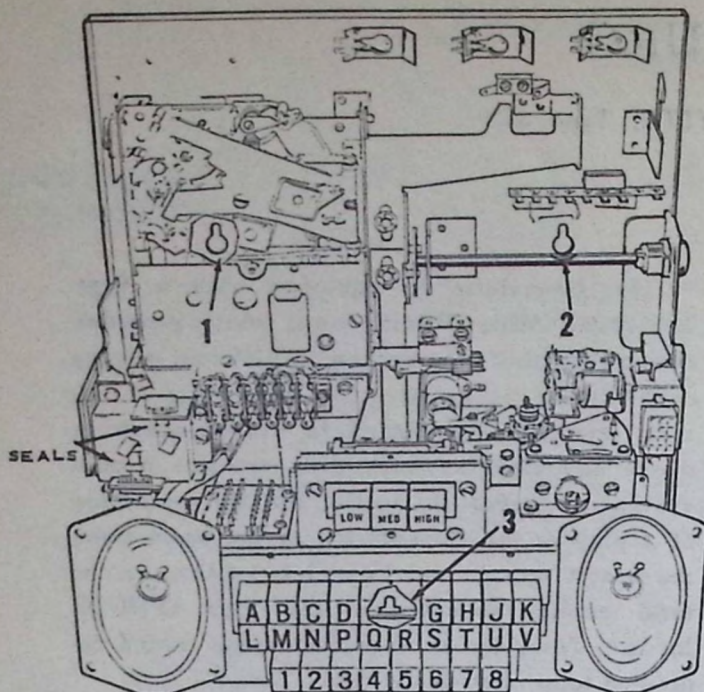

Figure 2. Interior View - Mounting and Seals.
The black and white wires of the interconnecting cable carry power to the lights and motor. The blue and black wires comprise a selection circuit to provide remote control of the selection system operation in the phonograph. The brown, red, and orange wires are for transmittal of coin deposit information to the income totalizer in the phonograph and their terminal board is covered and sealed as shown in Figure 2. The balance of wires in the cable are for audio and control of the stereo speakers in the Consolette.
There are three holes in the back plate for mounting, identified 1, 2 and 3 in Figure 2. The two upper holes are slotted for fitting over screws already set in the wall at the proper points. The lower hole is for rigidly mounting the Consolette by means of a screw, after it has been hung in place.
4. Replace the cover on the left hand terminal board; secure with two screws. Install one of the seals from the lower left side of the terminal board cover so that the serial number is right reading and fold the tab down at the score mark. Install the other seal from the upper right side of the terminal board cover and fold the tab up at the score mark. (See Figure 2).